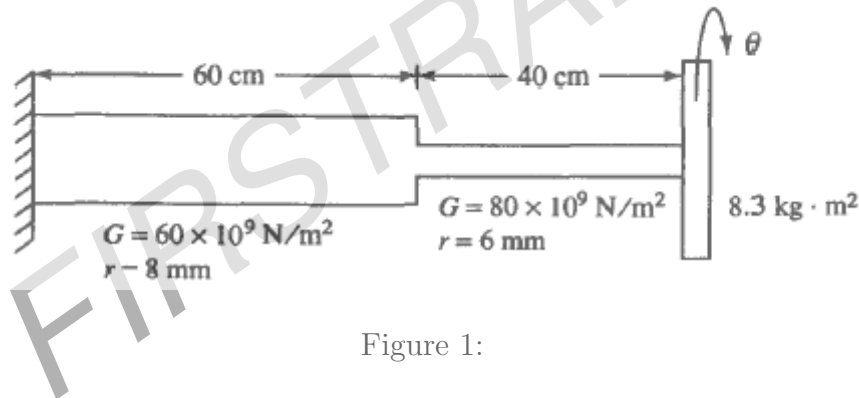

Figure 1:
3. Explain the torsional vibrations and obtain the equation of natural torsional frequency for the system shown in figure 1. [16]